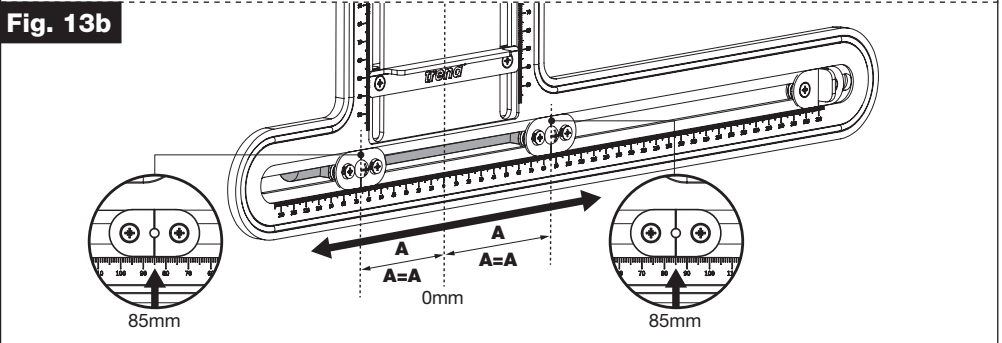

Fig. 13c
- Tighten the Drill Guide M4 Machine Screws (Fig. 13c).